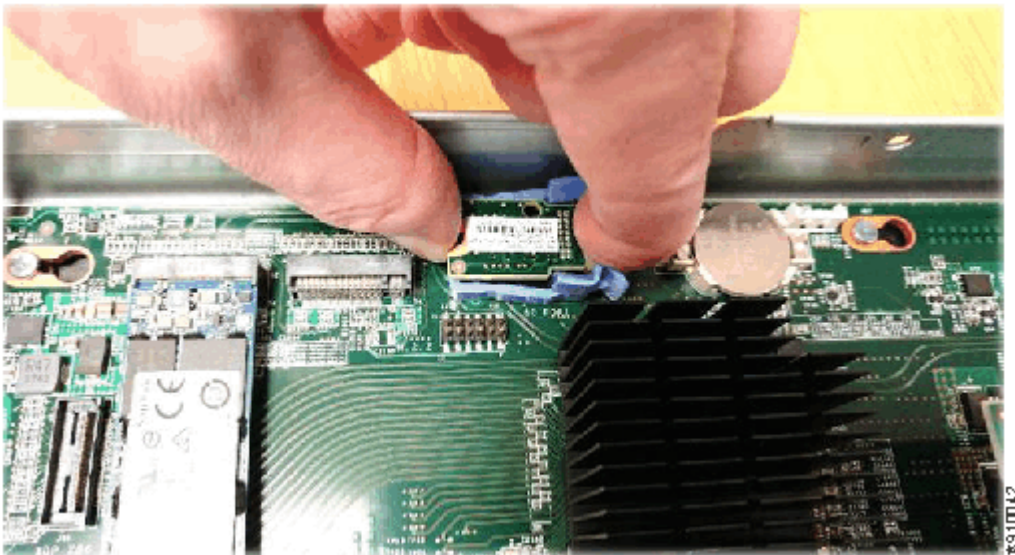

Figure 112. Removing the TPM
7. Insert your finger tip between the latches and hold the TPM between your thumb and finger, as shown in Figure 112 on page 148.